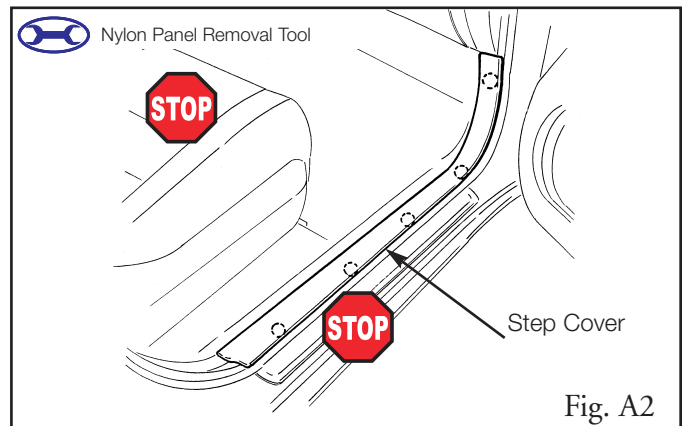

Fig. A2
2. Remove the passenger's step cover. (Fig. A2)